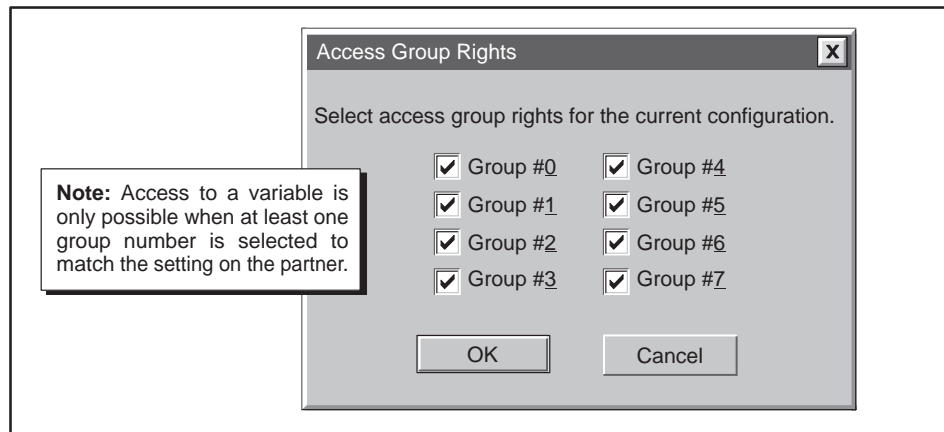

Figure 5-14 FMS Access Group Rights Dialog Box
**Access Groups** When you click on the Access Groups field, a button appears in the field. Click on the button to view the Access Group Rights dialog box (shown in Figure 5-14). Select the groups that have access by clicking on the group boxes. Click on OK. The dialog box disappears, and the selected groups are displayed in the Access Groups field. (Refer to Section 4.3 for more information.)